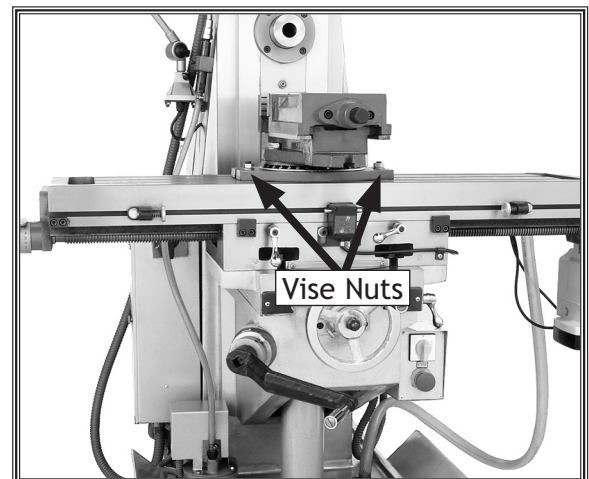

Figure 23. Vise nuts.
2. Loosen the vise nuts (see **Figure 23**), one on each side, to free up the vise.